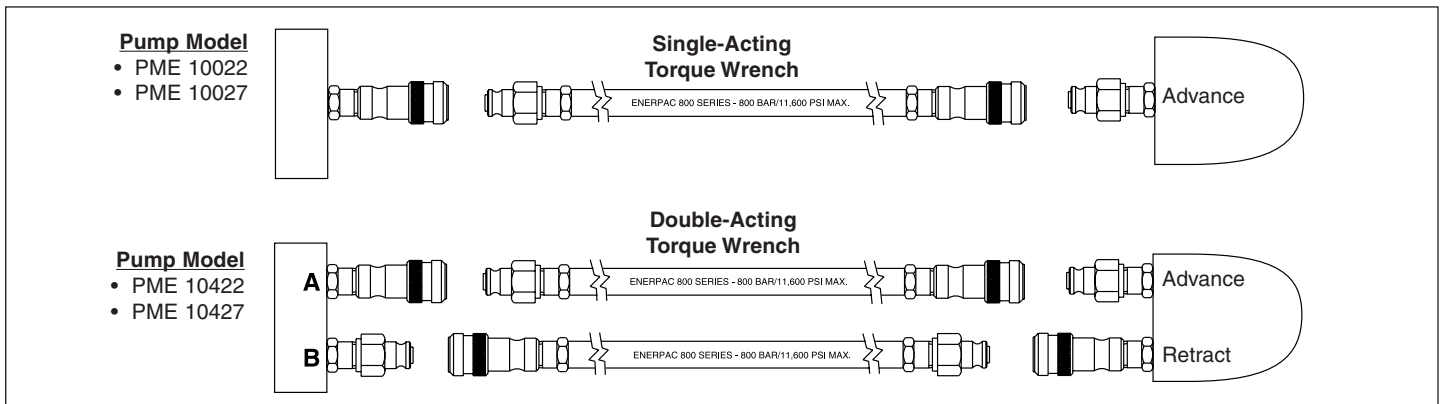

Figure 4, Coupling Diagram
2. Connect other end of hose to coupler on wrench as shown in Figure 4.
2. Couple hoses to torque wrench as shown in Figure 4. When using the Enerpac pump and torque wrench combination, Series 800 hoses and couplers are designed so that the pump advance port can only be connected to the wrench advance port, and the pump retract port can only be connected to the wrench retract port.